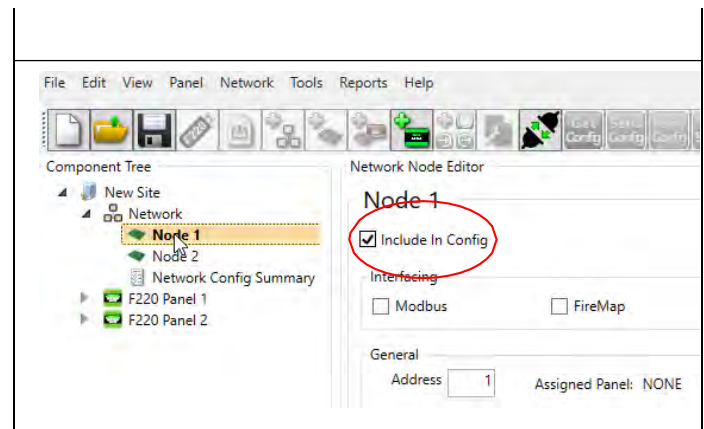

Figure 20-31: Network Node Editor
- Toward the top of the Network Node Editor window will be a checkbox labeled 'Include In Config' (Figure 20-31: Network Node Editor Red oval). This should normally be checked (ticked) so that the node will be included in the network configuration.